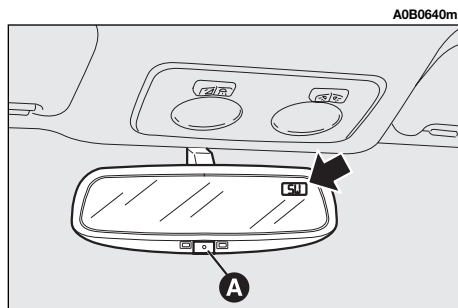

fig. 3
If letter "C" is displayed the compass shall be reset. Make the car turn by  $360^\circ$  at a speed equal to or lower than 8 km/h, until the display (fig. 3) shows car running direction (North, South, East, West).
- with display on, keep switch (A-fig. 3) pressed for 6 seconds until displaying the number corresponding to the zone for which the zone was initialised last time;
- set the involved zone by pressing repeatedly switch (A-fig. 3) until displaying the number corresponding to the required zone;